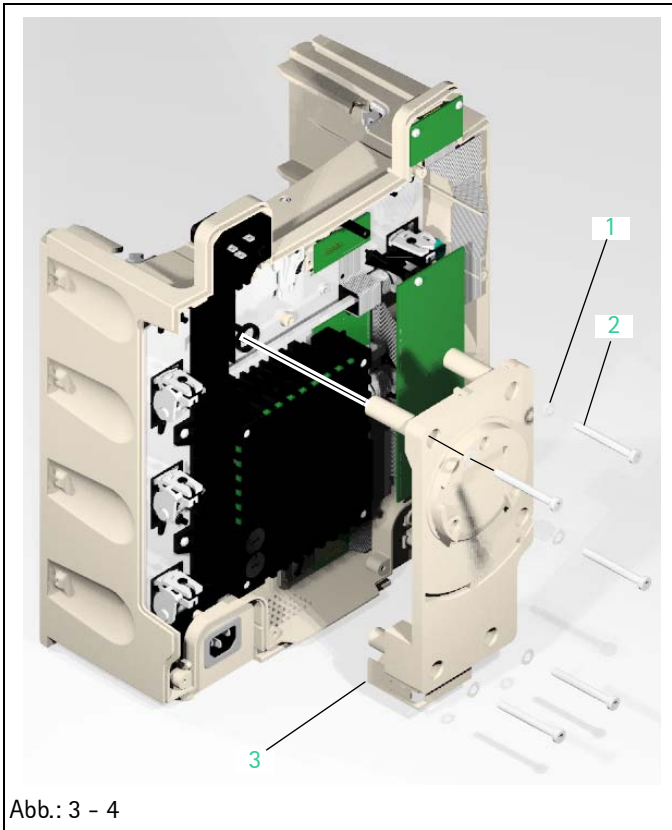

Abb.: 3 - 4
1. Loosen five screws (Abb.: 3 - 4 / Item 2) and remove screws together with the serrated lock washers (Abb.: 3 - 4 / Item 1) and the device bracket (Abb.: 3 - 4 / Item 3).
Legende zu Abb. 3 - 4: